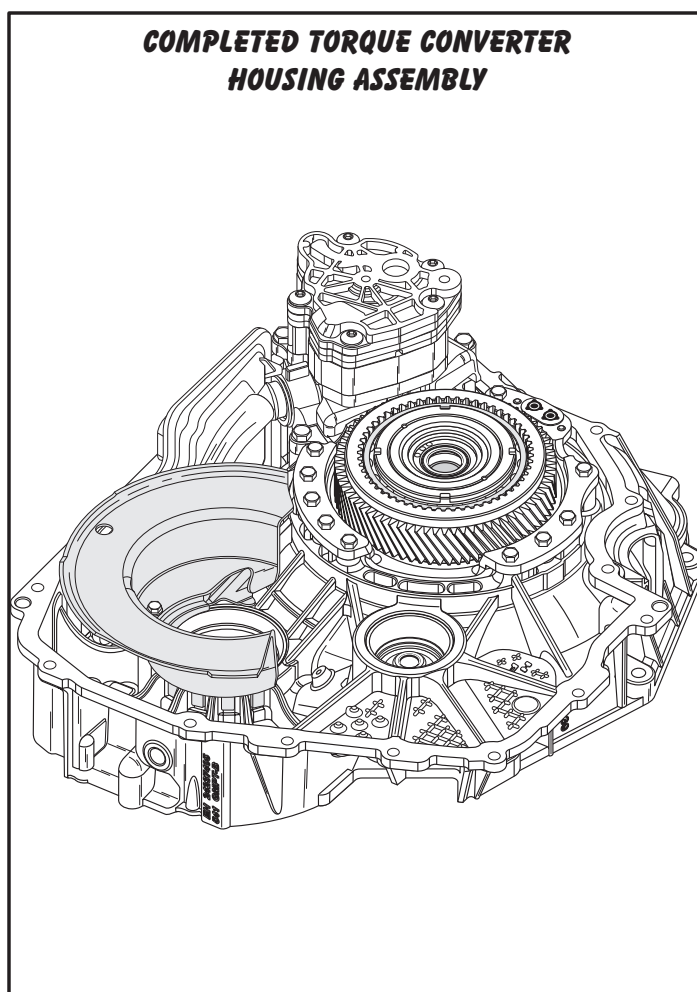

Figure 126
23. Set the completed torque converter housing aside for the final assembly process (See Figure 126).